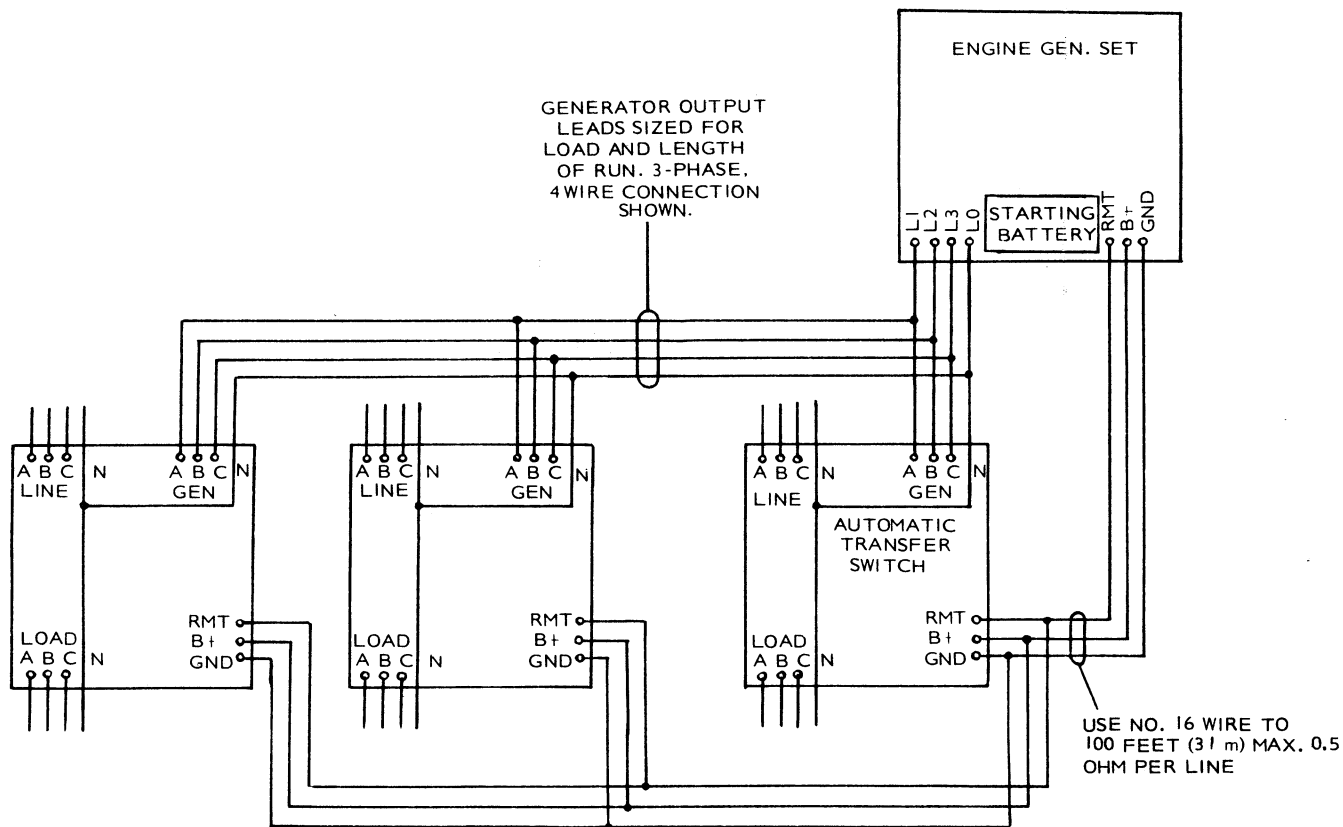

FIGURE 8. STANDBY INSTALLATION FOR MULTIPLE POWER SERVICES
4. Multiple automatic transfer switches are used for more than one power service with one generator set for emergency standby power. The generator set can supply the single phase, the three-phase, or both simultaneously. Figure 8 shows a typical